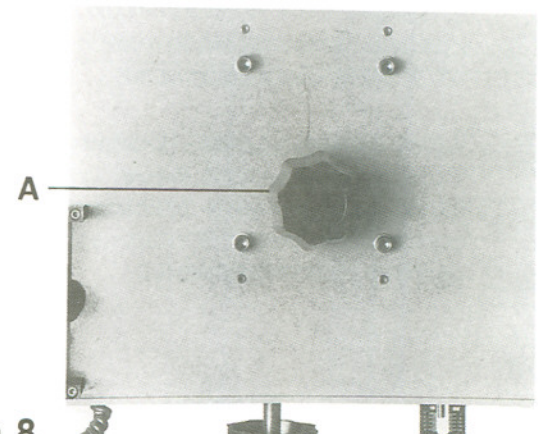

Figure 8
2. Turn the Idler wheel adjustment knob (A, Fig. 8) clockwise or counter-clockwise until the blade runs next to, but not against, the wheel flange.